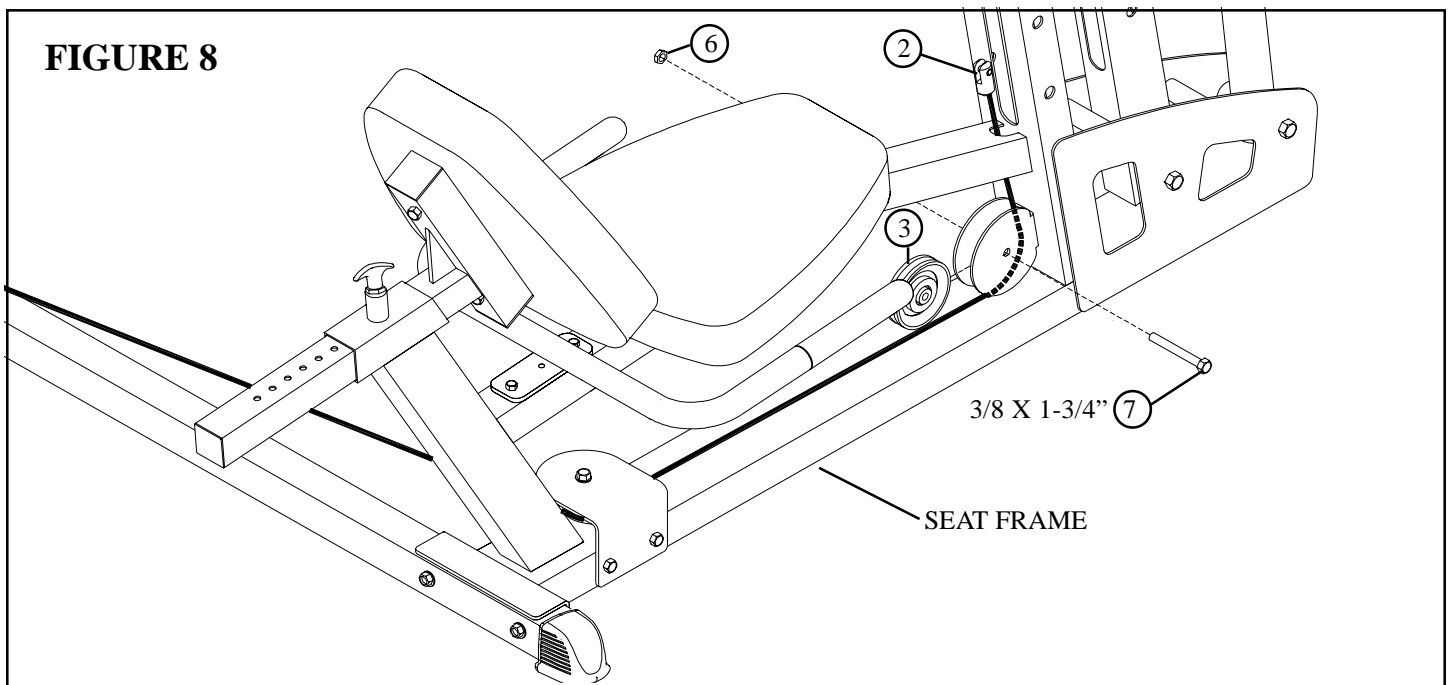

FIGURE 8
- If not already installed, slide one 2" COVER CAP (4) over the FRONT LEG (1) as shown in FIGURE 8
- Carefully route the LEG PRESS CABLE (2) around one 3-1/2" PULLEY (3) and **SECURELY** assemble the 3-1/2" PULLEY (3) to the bracket on the SEAT FRAME using one 3/8 X 1-3/4" BOLT (7) and one 3/8" LOCK NUT (6) as shown in FIGURE 8. Make sure the CABLE is in the grooves of all the pulleys.